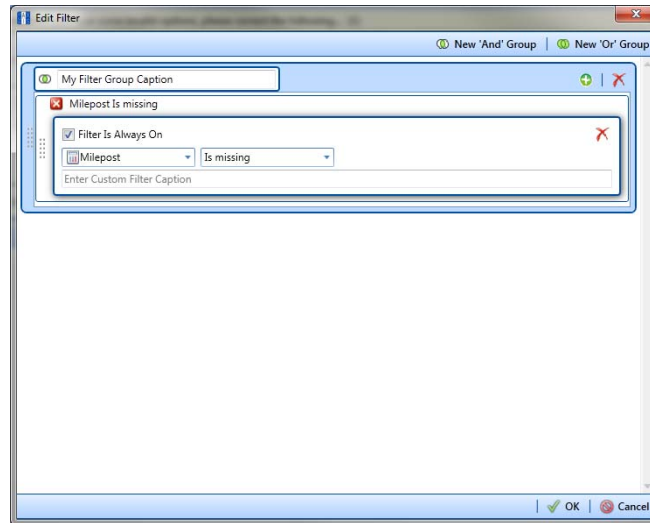

Figure 9-32. New 'And' Filter Group
- a Click  **New 'And' Group** to open the filter properties group box (Figure 9-32).